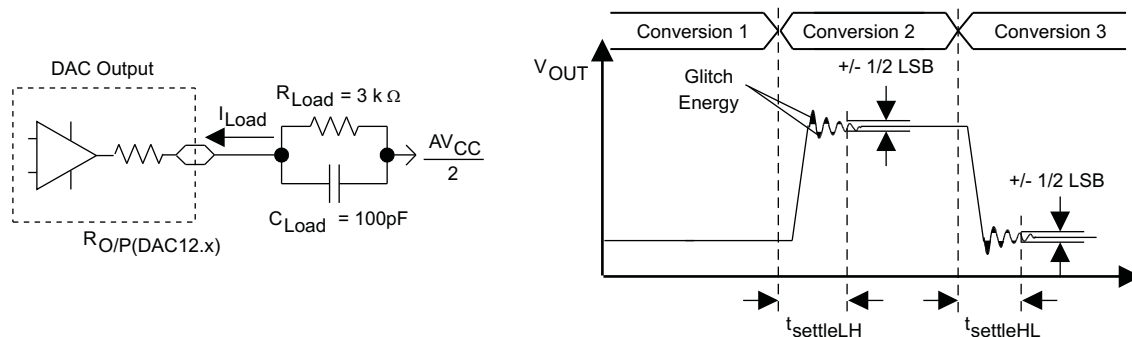
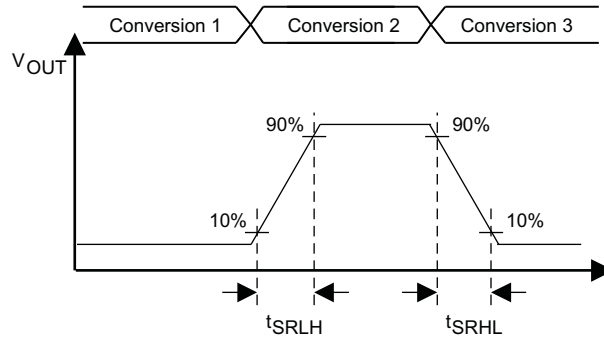

Figure 5-25. Settling Time and Glitch Energy Testing
Figure 5-26. Slew Rate Testing
Vref = VCC, DAC12IR = 1, over recommended operating free-air temperature range (unless otherwise noted) (see Figure 5-25 and Figure 5-26)
- (1) RLoad and CLoad connected to AVSS (not AVCC/2) in Figure 5-25.
- (2) Slew rate applies to output voltage steps ≥ 200 mV.